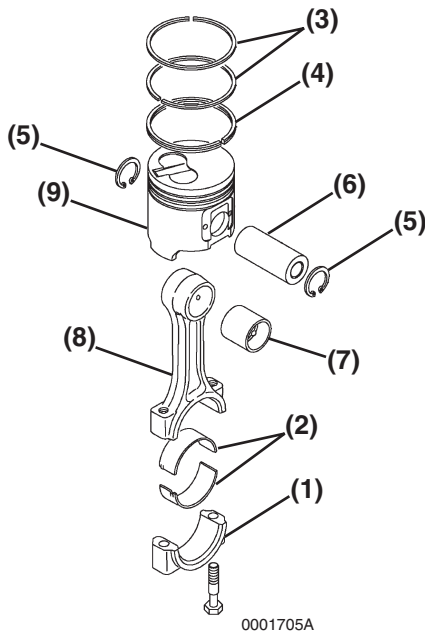

Figure 6-44
2. Remove the two bolts from one of the connecting rod caps (**Figure 6-44, (1)**).
4. Remove the bearing halves (**Figure 6-44, (2)**).
6. Using a ring pliers, remove the two compression rings (**Figure 6-44, (3)**) from the piston.
7. Using a ring pliers, remove the oil seal ring (**Figure 6-44, (4)**) from the piston.
8. Using a snap-ring pliers, remove the circlips (**Figure 6-44, (5)**) from the wrist pin.
9. Disassemble the wrist pin (**Figure 6-44, (6)**), wrist pin bushing (**Figure 6-44, (7)**), connecting rod (**Figure 6-44, (8)**) and piston (**Figure 6-44, (9)**).